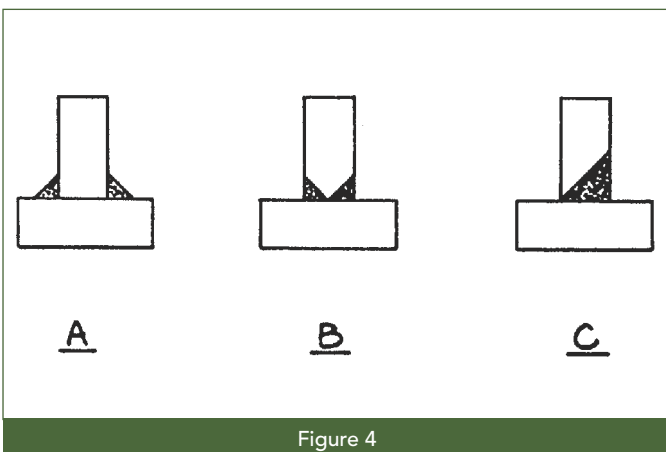

Figure 4
**Where possible, specify fillet welds rather than groove welds.** Groove welds are more costly because of the joint preparation required and the generally greater volume of weld (see Figure 4).